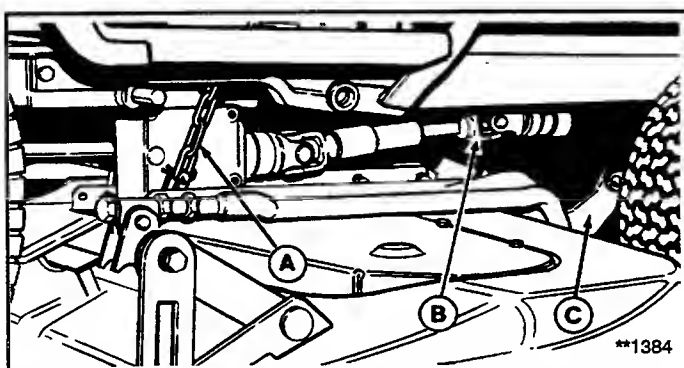

Figure 7. Mower Installed -Viewed From Right Side
- Figure 7 shows mower installed, as viewed from the right side.
- With mower in high cut position, disconnect the chains (figure 7).